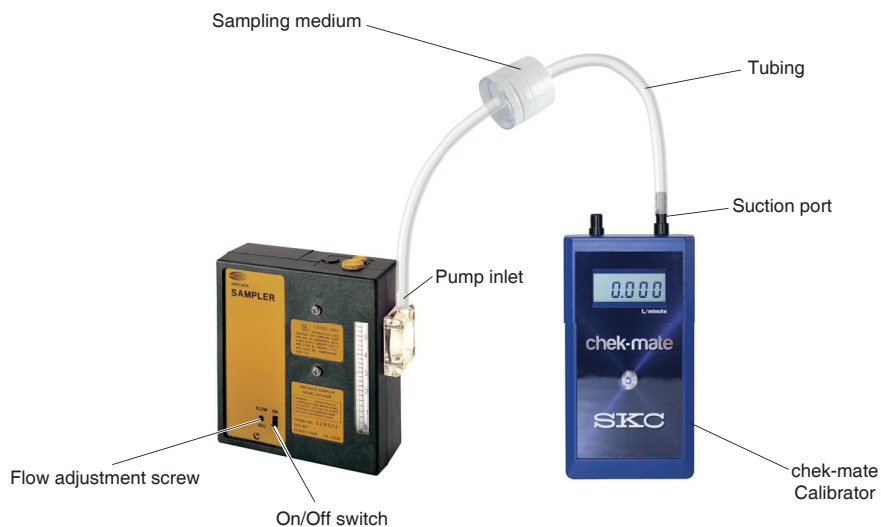

Figure 2. Calibration train with filter cassette
3. Using 1/4-inch Tygon tubing, connect the sampling medium outlet to the pump inlet (*Figure 2*).
1. Start the pump using the on/off switch (Figure 2), and adjust the flow rate by turning the flow adjustment screw (Figure 2) until the built-in rotameter reads approximately 1.5 L/min.
2. Remove the cap screw covering the regulator valve (Figure 2) and turn the exposed screw four to five turns counterclockwise.
3. Start sampling by turning on the pump using the on/off switch (*Figure 2*), and record the start time.